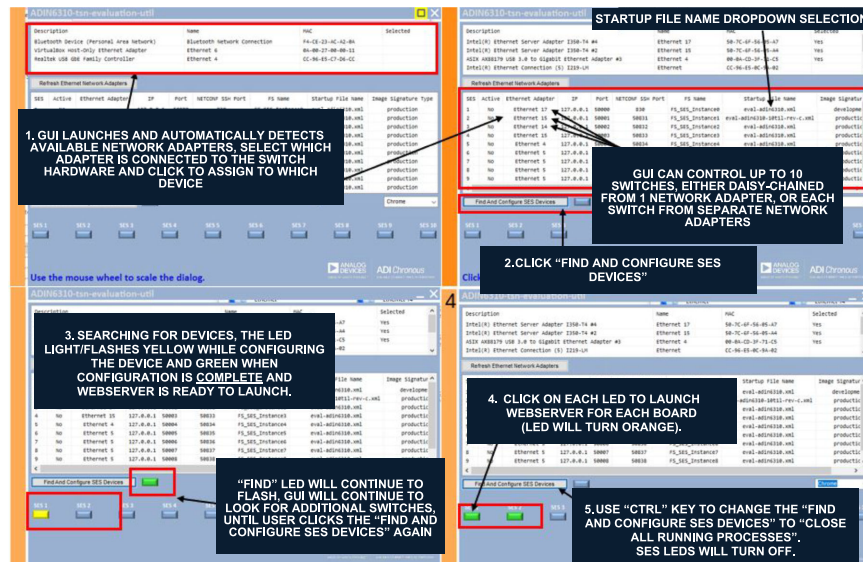

Figure 24. Starting the GUI Application
Start the application by double-clicking the **ADIN6310-tsn-evaluation-util.exe** executable. The GUI application window appears, as shown in Figure 24.
3. The GUI searches for and configures the MAC address for any ADIN6310 device it finds. Each Switch powers up with the same default MAC address (7a:c6:bb:ff:fe:00). The first thing the GUI application does during configuration is to assign a primary MAC address (based on XML configuration). If observing the traffic from Host to Switch using Wireshark, initially messages are sent from the PC to the default multicast address (79:c6:bb:ff:fe:00) and responses come from default MAC address 7a:c6:bb:ff:fe:00 until the primary MAC address gets assigned. An LED turns green for each board found. Clicking on the LED for each connected ADIN6310 device launches a browser for each board as shown in Figure 24. Once the web server is launched, the LED color changes to orange. Keep the PC application open, it needs to stay running while interacting with the web server. The GUI application continues to search for more ADIN6310 devices, so if all connected devices have been identified, stop the application searching by clicking the **Find and configure** button again. The find LED then stops flashing.
4. If boards are power cycled or reset button is pressed, the device reverts to the default MAC address and if the GUI application is searching, it sees them as new devices (additional LED lights go green). To avoid this, close the older processes associated with those instances of boards on the keyboard, use **Ctrl** and **Close All Running Processes**, as shown in point 4 of Figure 24.